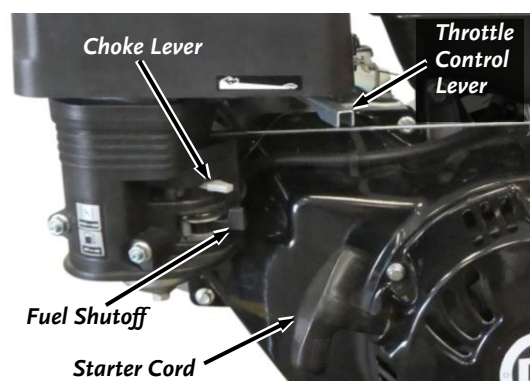

Figure 18
1. Ensure that the Fuel Shut-Off is in the “ON” position to the right (**Figure 18**).
1. Ensure that the Fuel Shut-Off is in the “ON” position (**Figure 18**).